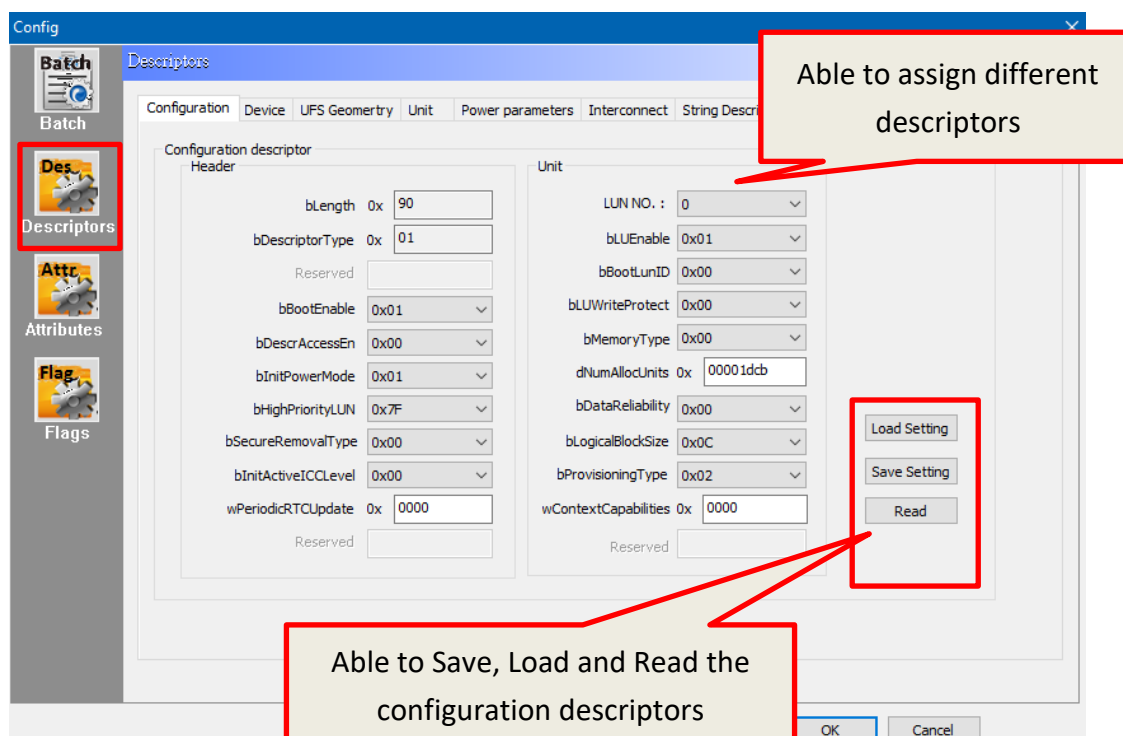

Fig. 5-18
- **Descriptors:** It provides all UFS descriptor settings. Use **Write Descriptor** to write; test read is also available on this page. (Fig 5-18).